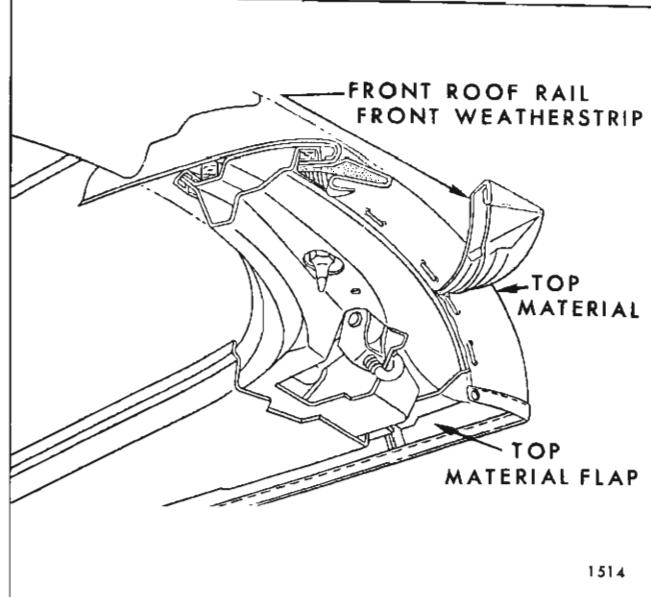

Fig. 1-I-1—Front Roof Rail Assembly
8. Remove front roof rail front and rear weatherstrips (Fig. 1I1).
9. Detach top material from front roof rail (Fig. 1I1).
10. Detach top material flaps from side roof front rail (Fig. 1I1).